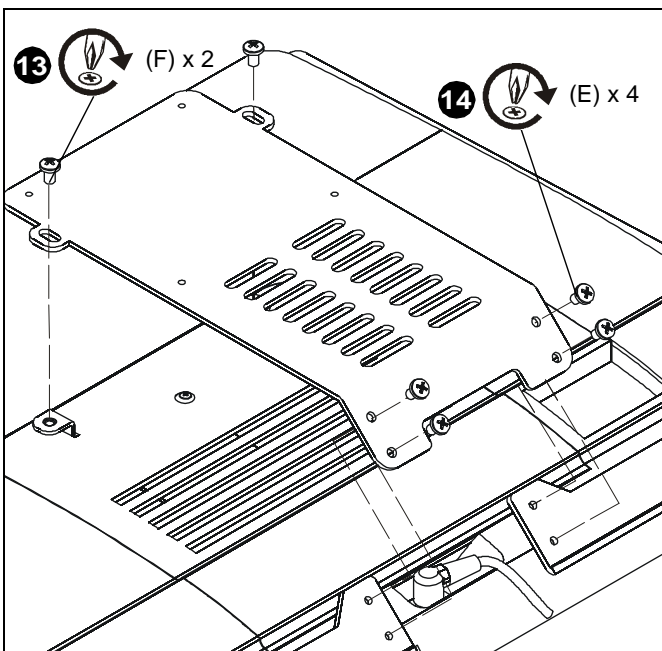

Figure 5
13. Use two #10-24 x 3/8" Phillips pan head screws (F) to secure connector plate (A) to adapter bracket (B). (See Figure 5)
14. Use four #10-24 x 1/4" Phillips pan head screws (E) to secure connector plate (A) to hook brackets (C and D). (See Figure 5)